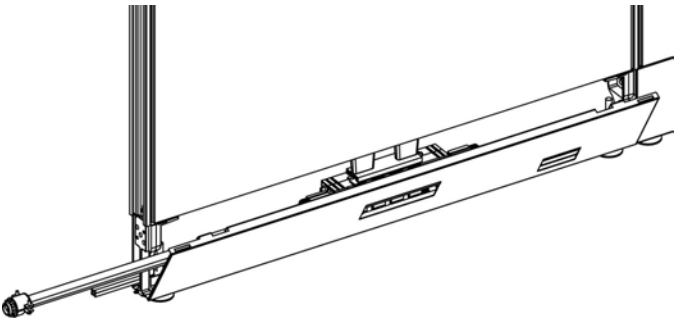

Figure 6
- 7. Place the raceway cover, (Figure 6). See “Raceway Cover Installation”.